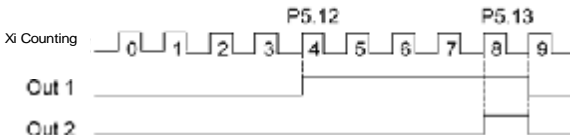

Fig.6-18 Schematic diagram for the preset and reaching counting value reference
2. The terminal Yi is set to "10: Preset counting value action", and the action sequence is shown as Out1 in Fig.6-18. Effective level will be output when the counting value is between the values of P5.12 and P5.13.
The terminal Yi is set to "11: Reaching counting value action", and the action sequence is shown as Out2 in Fig.6-18. Effective level will be output and kept till the counting value changes when the counting value reaches the value of P5.13.